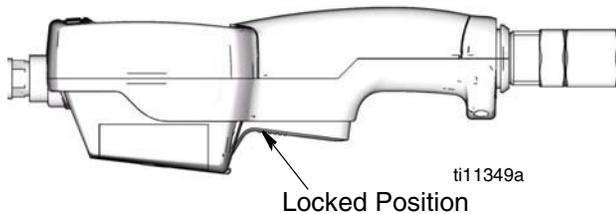

FIG. 19
**To lock the trigger (FIG. 19)**, press on the part of the trigger that has the textured grip until you feel it click into the locked position.